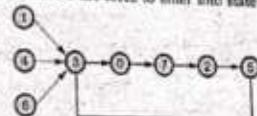

Fig. 5.9.50
**Solution :** The Fig. 5.9.50 shows the state diagram for the given counter. To avoid lock-out condition states 1, 4 and 6 are forced to enter into state 3.